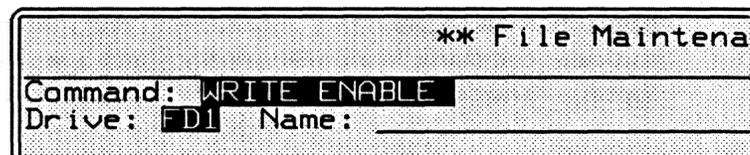

Figure 13-7 The name of the current disk is selected in the *Drive* field.
1. *Current drive.* At the top of the screen, just below the **Command** field, the name of the current disk is given (see Figure 13-7). The files displayed in the directory listings on the screen reside on the disk named in this area.
2. *Name field.* Every command requires at least one filename and provides a field in the menu area for filename entry (see Figure 13-7) where you MAY enter the name of the file to be acted upon. The file's absolute or relative pathname can be entered. If you enter the filename, you must type it exactly as it appears in the directory listings.